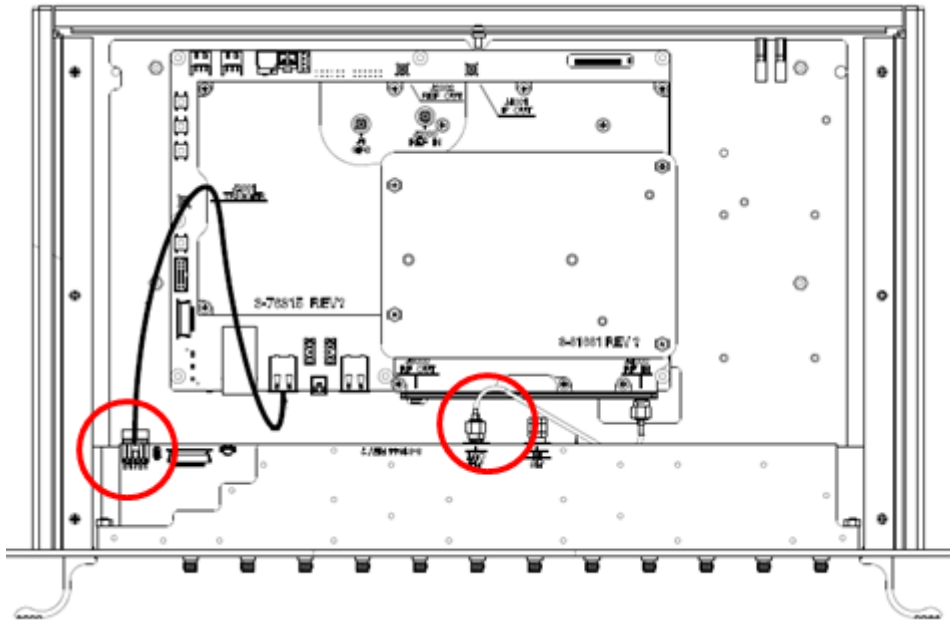

Figure 3-12. Front Panel Cables
2. Referring to Figure 3-12, remove the semi-rigid RF Input and USB cable. If the MS27103A is a 24 port unit, there will be two USB cables to remove.